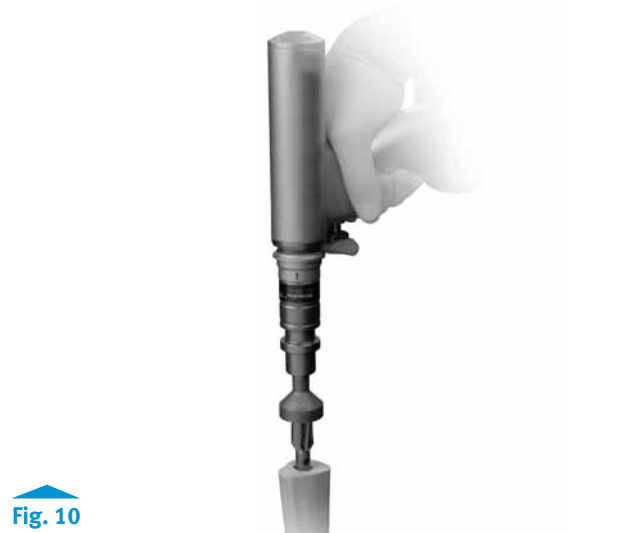

Fig. 10
- Insert the assembly into the reamed canal and counterbore the proximal canal (**Fig. 10**).